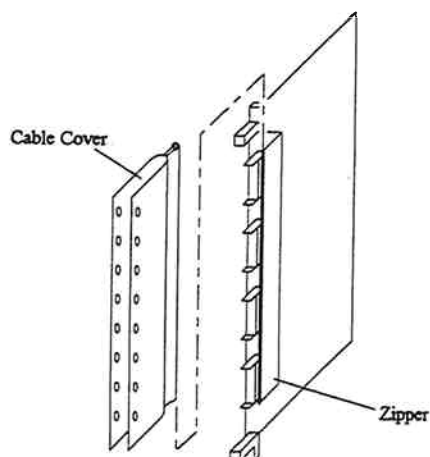

Fig. 3.7.3.3-4 Transfer of Cable Cover
- Insert the PCBs to the correct locations in the Logic Box. Refer to Table 3.7.3.3-2 and Fig. 3.7.3.3-5.